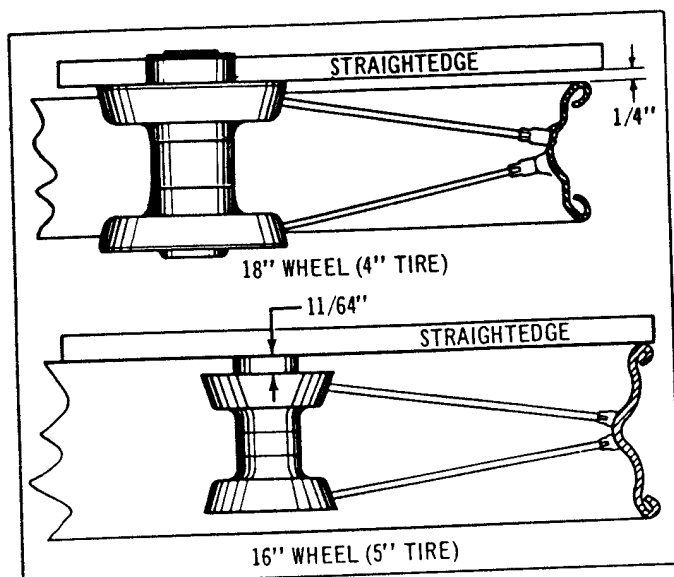

Figure 2C-6. Centering Wheel Rim
5. Insert spokes in outer ten holes of flange and swing spokes clockwise (see Fig. 2C-5).